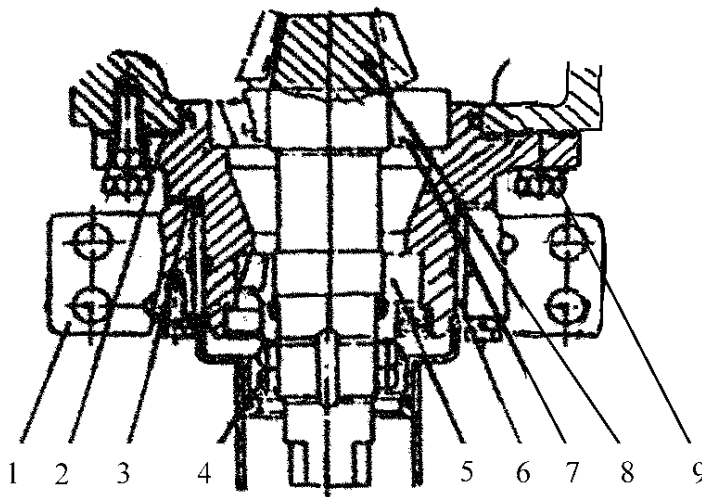

Fig.6-12 Adjustment of Drive Bevel Gear Bearing
When the tractor works in a paddy field, mud is easily to immerse the ends of the front and rear swing sleeves (6) and have them worn out, which results in the axial play increasing. Thus, to ensure the normal axial play, the two thrust shims (3) are respectively set on the ends between the front axle assy and the swing seat (1) for the future repairing or replacing because of long time wearing (Fig.6-12).